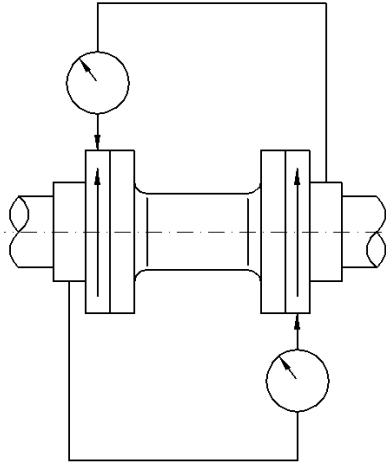

Figure 4.10
- 3) Using the coupling nut or the draw holes, clamp on the driven machine half-coupling a suitable extension arm or bracket sufficiently long to extend across the space between the driven machine and driver coupling hubs. Attach to the bracket as shown in Fig.4.10 a dial indicator with the probe resting on the outer diameter of the driver half-coupling. For angular alignment rotate both the driver and driven shafts together making sure that the indicator probe always rests on the same point. Take readings at every quarter turn. For parallel alignment rotate the driven shaft with the probe resting on the O.D. of the driver half-coupling. Take readings at every quarter turn. Move and shim the driver until the following values are reached:
For couplings with narrow flanges use a dial indicator as shown on figure 4.10 to check both parallel and angular alignment.